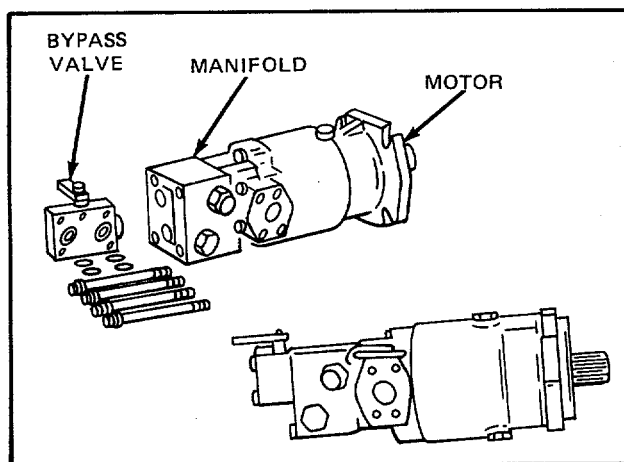

Figure 28.
3. Grasp the bypass valve to prevent it from dropping. Remove the four bolts holding bypass valve to manifold. There is no gasket between bypass valve and manifold assembly. Sealing is obtained by O-rings and backup rings (refer to Fig. 28).